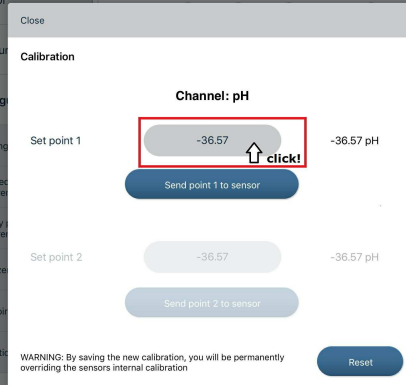

Fig. 5
3. Click on the value (Fig. 5)